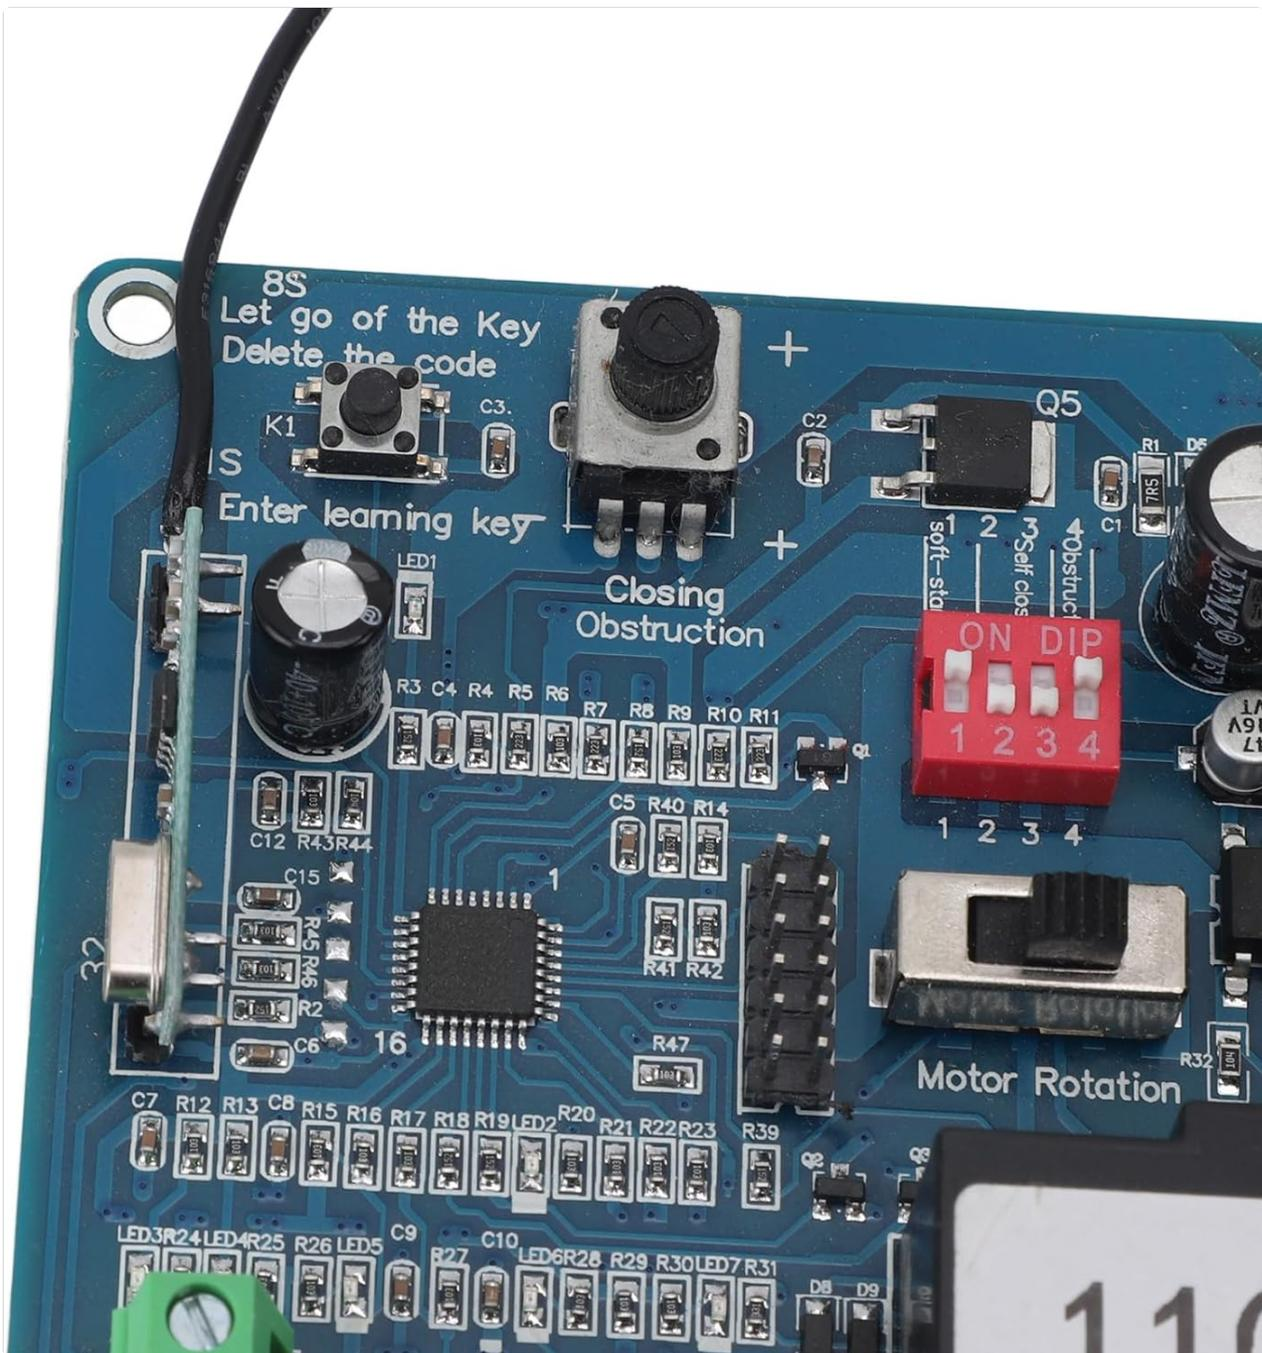

Figure 5.2: Close-up of the DIP switches (red block) and the learning key on the circuit board.
The DIP switches (Figure 5.2) allow configuration of specific operational parameters.
1. Press and hold the "Learning Key" (refer to Figure 5.2) on the circuit board.